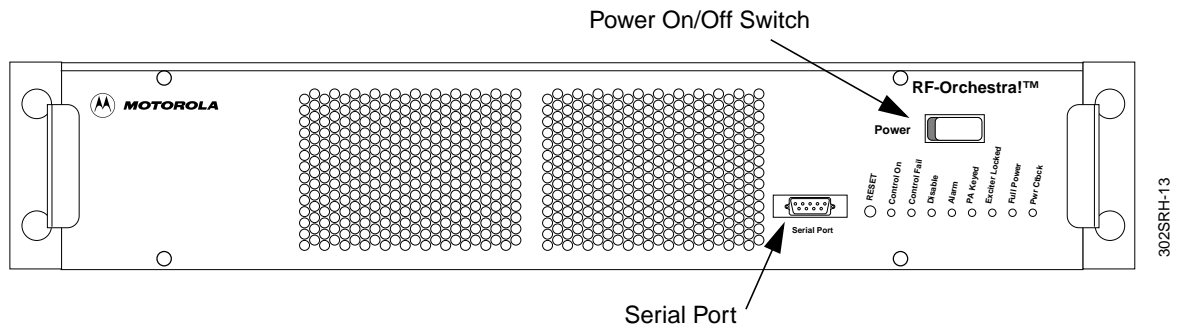

Figure 6-7: Front View of OCM
1. Power down the Orchestra Control Module (OCM) by switching off the Power On/Off switch (see Figure 6-7).
2. Using a #T15 TORX® driver, remove and save the four front panel mounting screws (see Figure 6-7).
5. Replace the front panel and secure with the four mounting screws removed in paragraph, "DC-DC Converter Removal", Step 2 (see Figure 6-7).
6. Switch on the Power On/Off switch located on the front panel (see Figure 6-7).
1. Power down the RF-O! transmitter by switching off the OCM Power On/Off switch (see Figure 6-7).
4. Switch on the Power On/Off Switch located on the OCM front panel (see Figure 6-7).
1. Power down the RF-O! transmitter by switching off the OCM Power On/Off switch on the front panel (see Figure 6-7).
2. Using a #T15 TORX® driver, remove and save the four mounting screws on the OCM front panel (see Figure 6-7).
3. Switch on the Power On/Off switch located on the OCM front panel (see Figure 6-7).